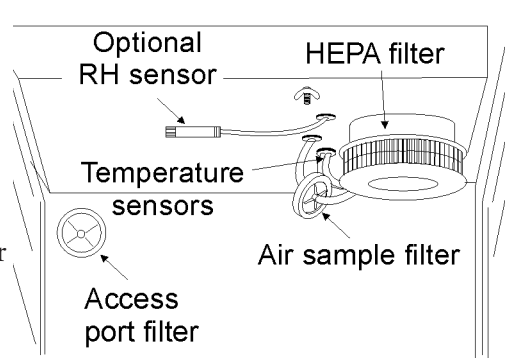

Figure 1-9. Filter and Sensor Locations
Locate the opening in the top left corner of the interior chamber. Remove the tape from the opening on the outside of the unit. Locate the stopper with filter in the hardware bag. Install in the opening inside the chamber (Figure 1-9).
4. Insert the free end of the air sample filter tubing into the larger hole in the back of the blower scroll. See Figure 1-9 for completed configuration.
3. Install the filter as shown in Figure 1-9.